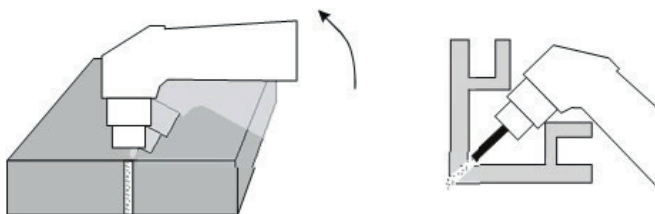

Figure 6: Holes piercing method in the material surface and in the corners
- It is recommended to start cutting from a material edge. Should the cutting be started not from material edge, it is advised to cut out a hole in start location. If it is necessary to start plasma cutting in the center of the material - start cutting with a burner inclined at an angle (Figure 6) and gradually raise it to the vertical setting until it breaks through. This procedure is necessary if the material thickness exceeds 3mm.